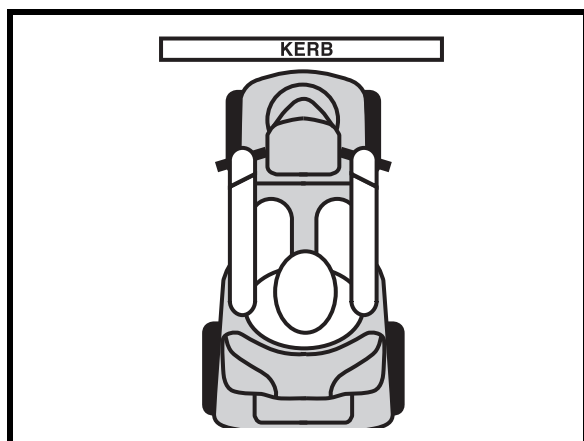

Figure 3. Correct Kerb Approach
1. Approach the kerb or obstacle slowly, and make sure the scooter is traveling perpendicular to the obstacle. See figure 3.
WARNING! Be sure your scooter is traveling perpendicular to any kerb you may be required to ascend or descend. See figures 3 and 3A.